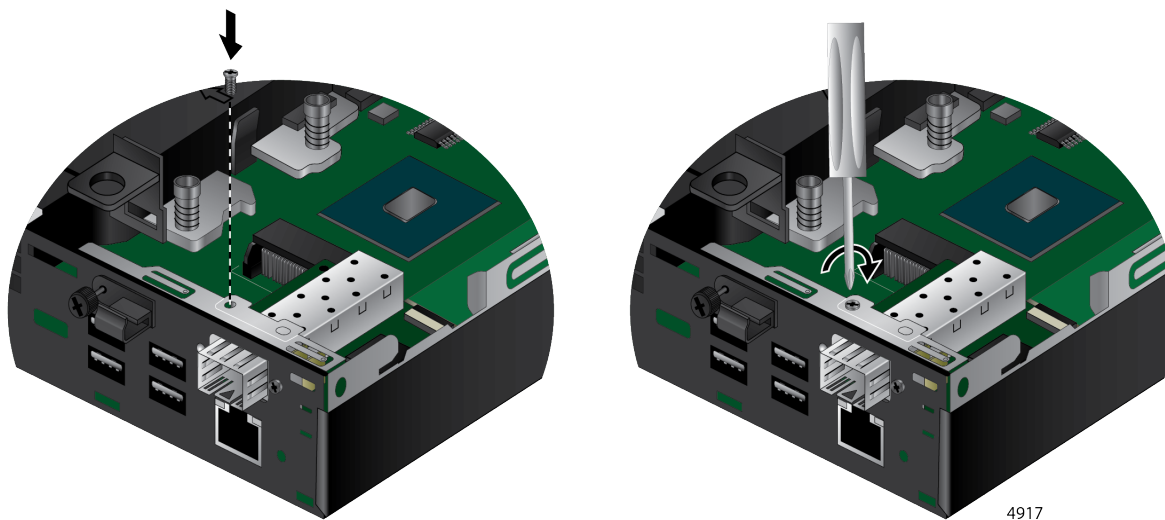

Figure 10. Securing the SFP Board to the Chassis
11. Secure the mounting standoff on the SFP board to the edge of the chassis using one of the SFP mount screws. See Figure 10.